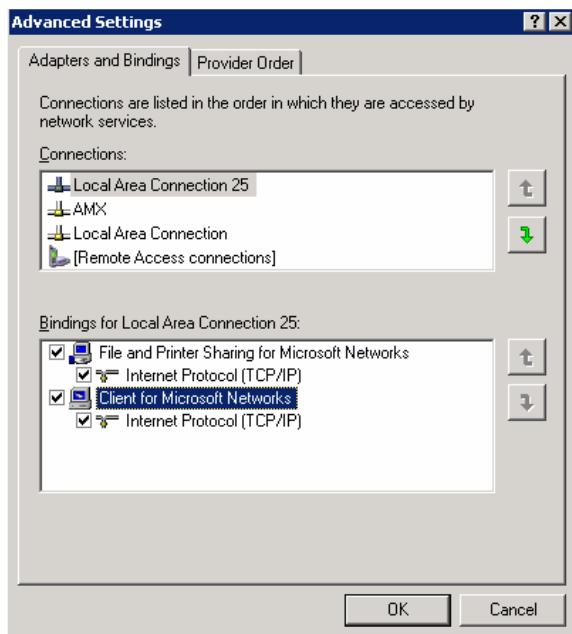
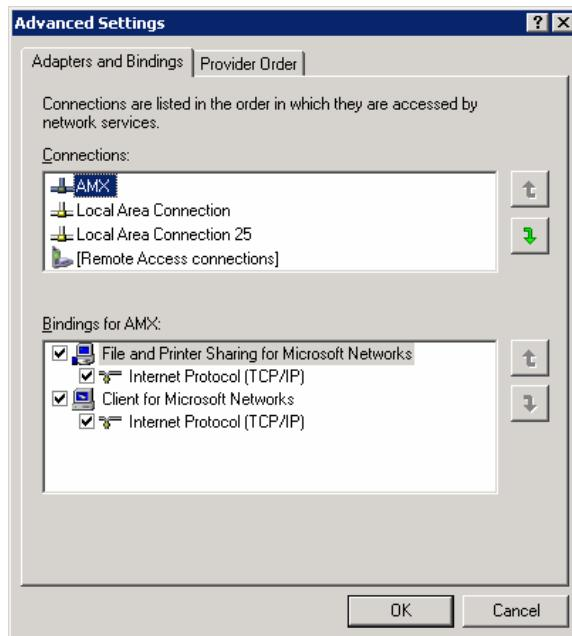

FIG. 78 Advanced Settings window
FIG. 79 Moving the Local Area Connection
3. From the *Advanced* menu, select *Advanced Settings...* to open the *Advanced Settings* window (FIG. 78).
4. Under the *Adapters And Bindings* tab, the user needs to make sure the Local Area Connection is not at the top of the *Connections* list. If it is at the top of the list (FIG. 78), select it and use the *down arrow* to the right of the list to move it to the bottom of the list (FIG. 79).